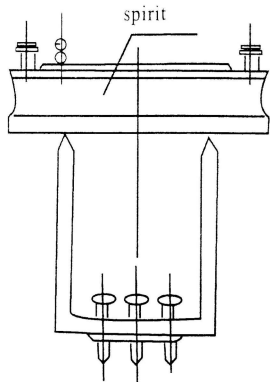

Fig. 4
3.1.1 The wheel balancer must be leveled (Fig.4), check it by spirit.